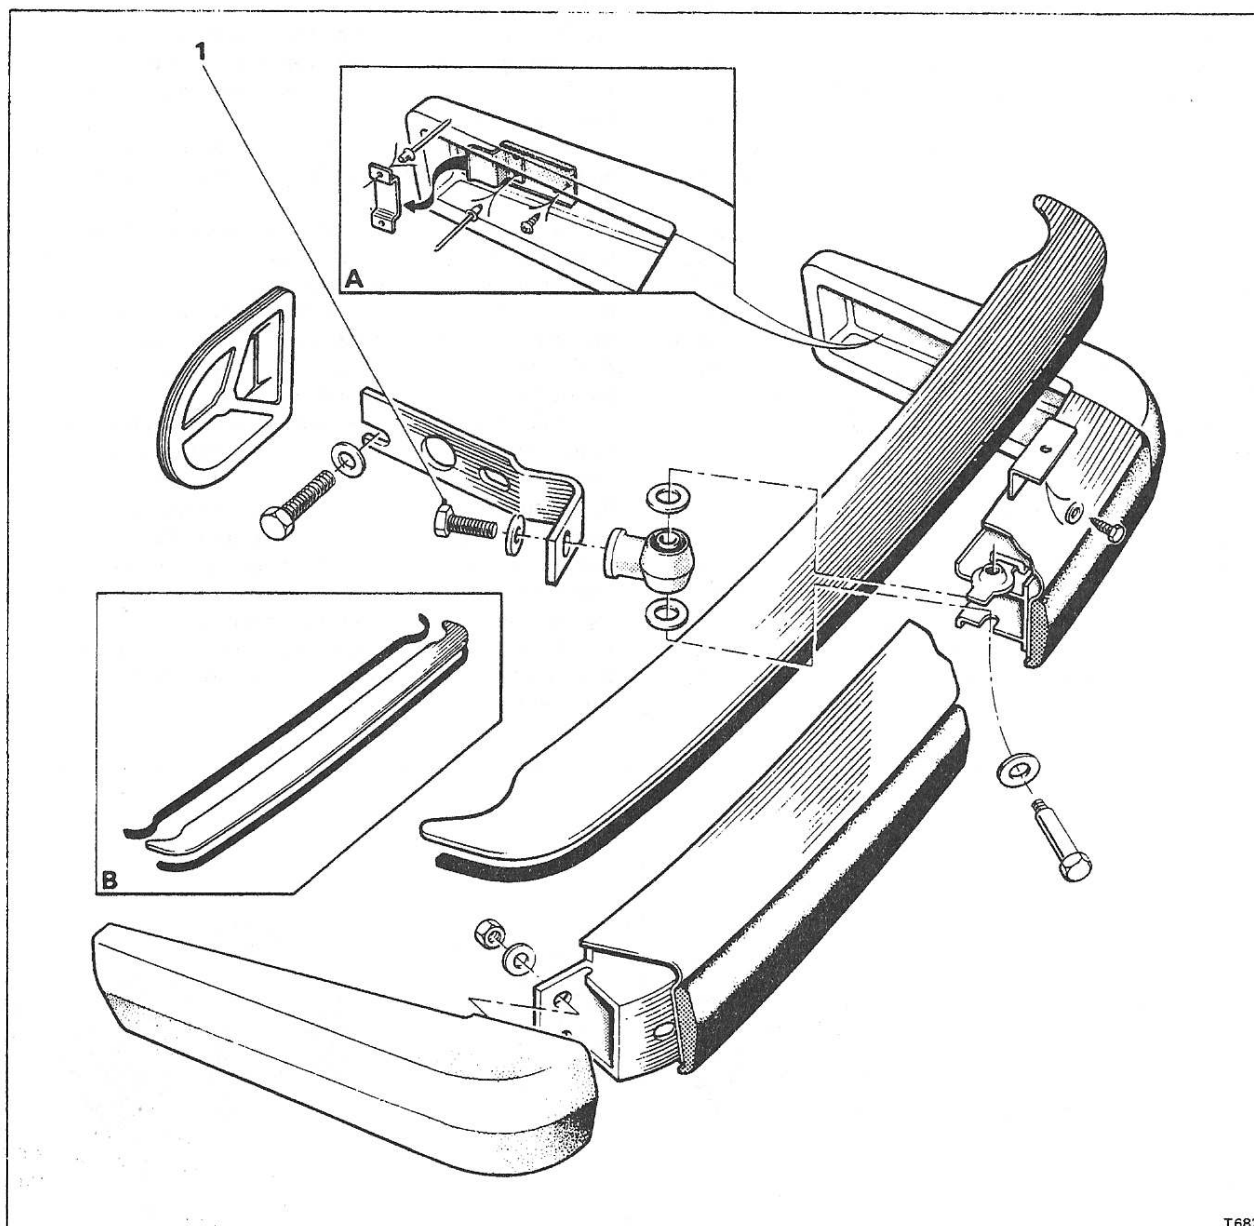

Fig. S89 Rear bumper assembly [Silver Shadow II, Bentley T2 Silver Wraith II and Corniche (Prior to car serial number 50 001) cars]
4. Remove the bolt securing each of the adapters to the mounting brackets (see Fig. S89, item 1).
On cars destined for Japan, ensure that the side moulding retention brackets are fully disengaged before completely withdrawing the bumper assembly from the body (see Fig. S89, inset A).
Using a $\frac{3}{4}$ in. A/F spanner, remove the two bolts securing each bumper mounting bracket to the body underframe; remove the mounting brackets and the aperture seal (see Fig. S89).
3. On cars destined for Japan, ensure that the side mounting retention brackets are engaged with their respective brackets fastened to the body (see Fig. S89, inset A).
6. On cars destined for Japan, ensure that the side moulding retention brackets are engaged with their respective brackets fastened to the body (see Fig. S89, inset A).